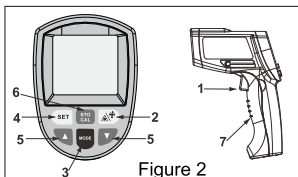

Figure 2
2. Diagram description: (figure 2)